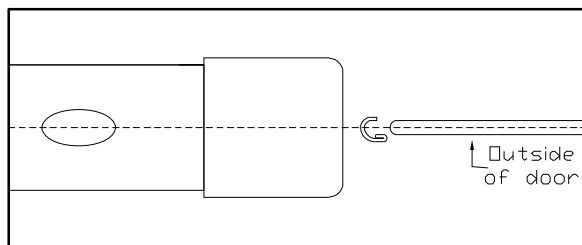

Fig. 1-5
**NOTE:** BEFORE PROCEEDING IT IS EXTREMELY IMPORTANT TO PROPERLY ALIGN THE DOOR EDGE, DOOR EDGE GUARD CHANNEL AND MALLET AS SHOWN IN FIG. 1-5 MALLET TECHNIQUE IS VITAL FOR PROPER INSTALLATION: